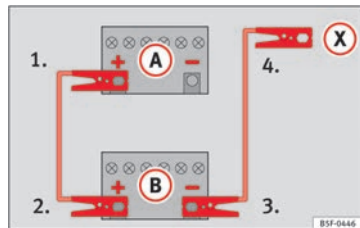

Fig. 176 Diagram of connections for vehicles without Start Stop system
2. Connect one end of the *red* jump lead to the positive $\oplus$ terminal of the vehicle with the flat battery $\textcircled{A} \Rightarrow \text{Fig. 176}$.
4. **For vehicles without Start-Stop system:** Connect one end of the *black* jump lead to the negative terminal $\ominus$ in the vehicle supplying electricity $\textcircled{B} \Rightarrow \text{Fig. 176}$.